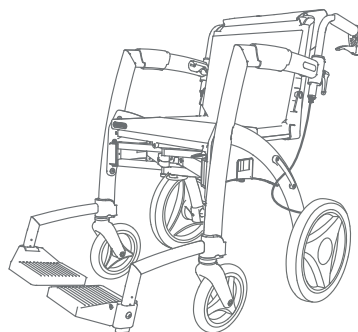

Figure 40: Transport chair is ready to use.
- f. The transport chair is now ready for use (**Figure 40**).
- a. Turn the Rollz Motion into a transport chair (**Figure 40**) and remove the footrests from the transport chair package bag.